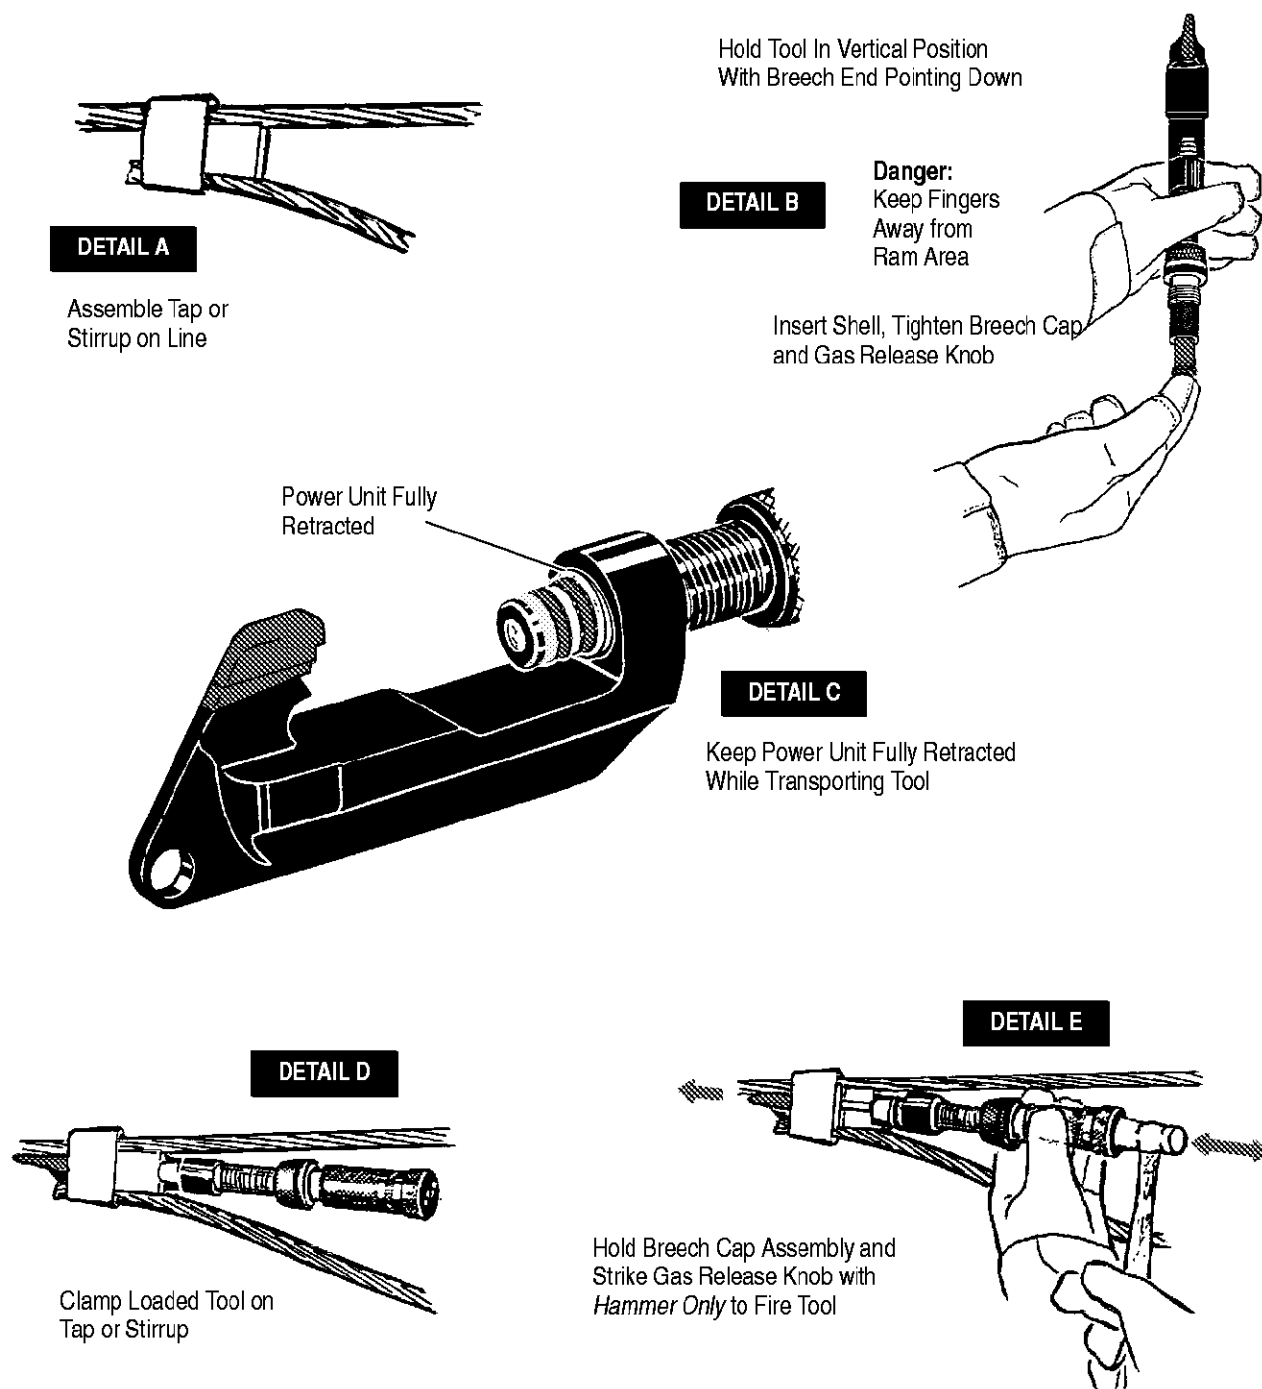

Figure 9
These precautionary procedures will become natural and automatic by constant use. Refer to Figure 9 and also refer to Figures 36 through 43 for proper testing and inspection of the "Fail Safe."
2. Always keep power unit fully retracted (see Figure 9, Detail C) while transporting tool or until ready to install or remove a connector. If the tool is accidentally dropped and fired with power unit ram fully retracted, the soft aluminum crush sleeve will absorb the force of ram travel and prevent additional damage to the tool. See Paragraph 7.2.
4. Always insert shell vertically (open end facing up; see Figure 9, Detail B). Replace and tighten breech cap and gas release knob **before** mounting the tool on tap or stirrup.
7. Always use a hammer to fire the tool. Never use a wrench or pliers. See Figure 9, Detail E.
9. Never allow hands to come in contact with tap or stirrup when firing the tool. Hold the knurled breech cap assembly to steady the tool when firing. See Figure 9, Detail E.